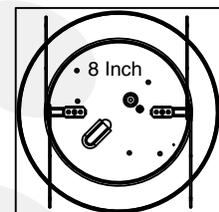

FIG.6
- Install the Spring Hooks as FIG.5 (For 6 Inch Can) or FIG.6 (For 8 Inch Can) by using M3\*8 self tapping screws.